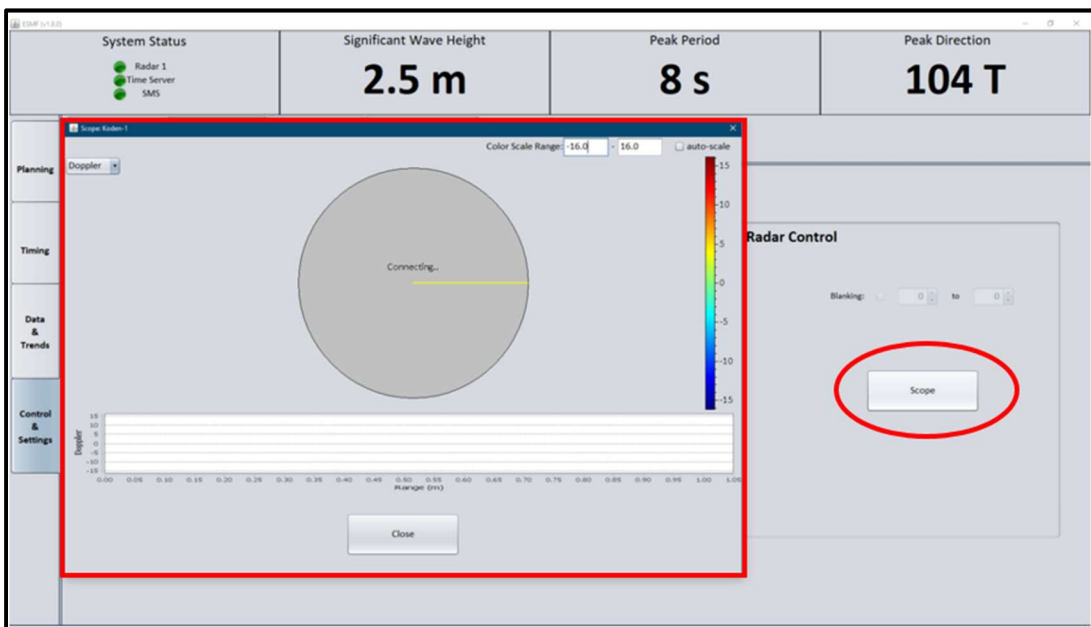

Figure 5: Locate ‘Scope’ Button and the show Radar Scope connecting in the **Radar-1 Tab**.
8. (Refer to Figure 5) To verify nominal operation of the radar and RPU, open the Sensor Scope by pressing the ‘Scope’ button. You will see the text ‘Connecting...’ as it tries to connect to the network. It may take up to 2 minutes for the radar scope to connect.